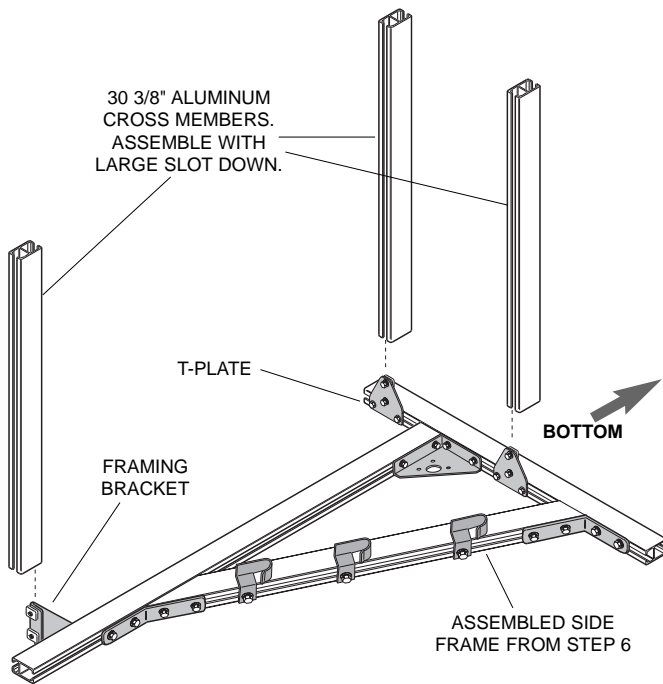

Figure 7.
7. Lay one side frame flat and slide three 30 3/8" long cross members into T-plates at bottom and framing bracket at top. Slide cross members tight against side frame members and securely tighten track nut bolts (Fig 7).